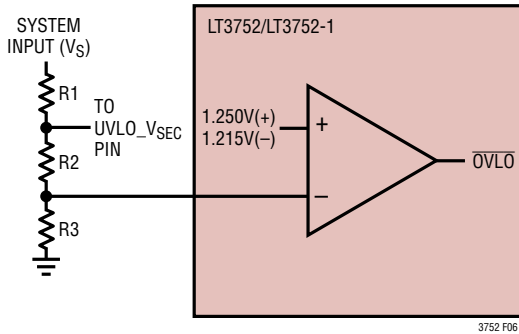

Figure 6. Programming Overvoltage Lockout (OVLO)
The LT3752/LT3752-1 have an accurate 1.25V overvoltage shutdown threshold at the OVLO pin. This threshold can be used in conjunction with an external resistor divider to define the rising overvoltage lockout threshold (OVLO(+)) for the converter's system input voltage (VS) (Figure 6). When OVLO(+) is reached, the part stops switching immediately and a hard stop discharges the SS1 and SS2 pins. The falling threshold OVLO(-) is fixed internally at 1.205V and allows the part to restart in soft-start mode. A single resistor divider can be used from system input supply (VS) to define both the undervoltage and overvoltage thresholds for the system. Minimum value for R3 is 1k. If OVLO is unused, place a 10k resistor from OVLO pin to ground.